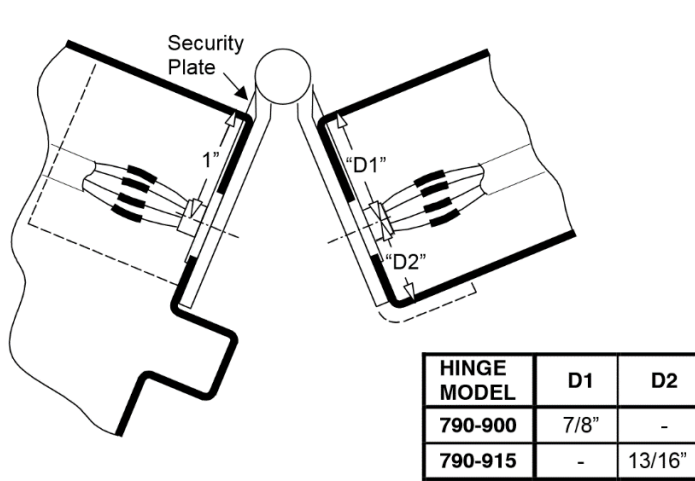
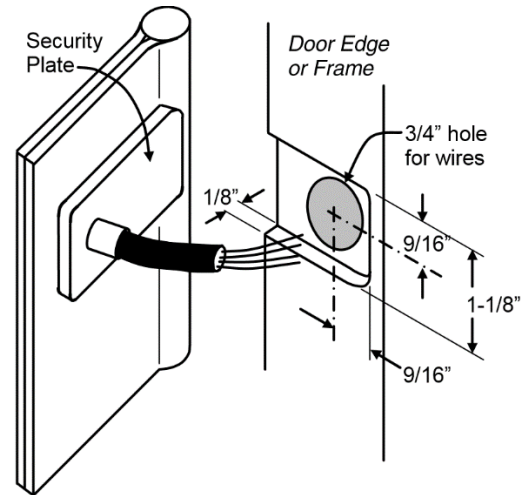

Figure 3
Figure 4
- Using the recess centerline locations above and in Figure 3, drill a 3/4" diameter access hole in both the frame and the door. Using Figure 4, mortise a 1/8" deep recess for a flush fit of the security plate. After drilling and mortising, deburr the holes to prevent damage to the wire leads.